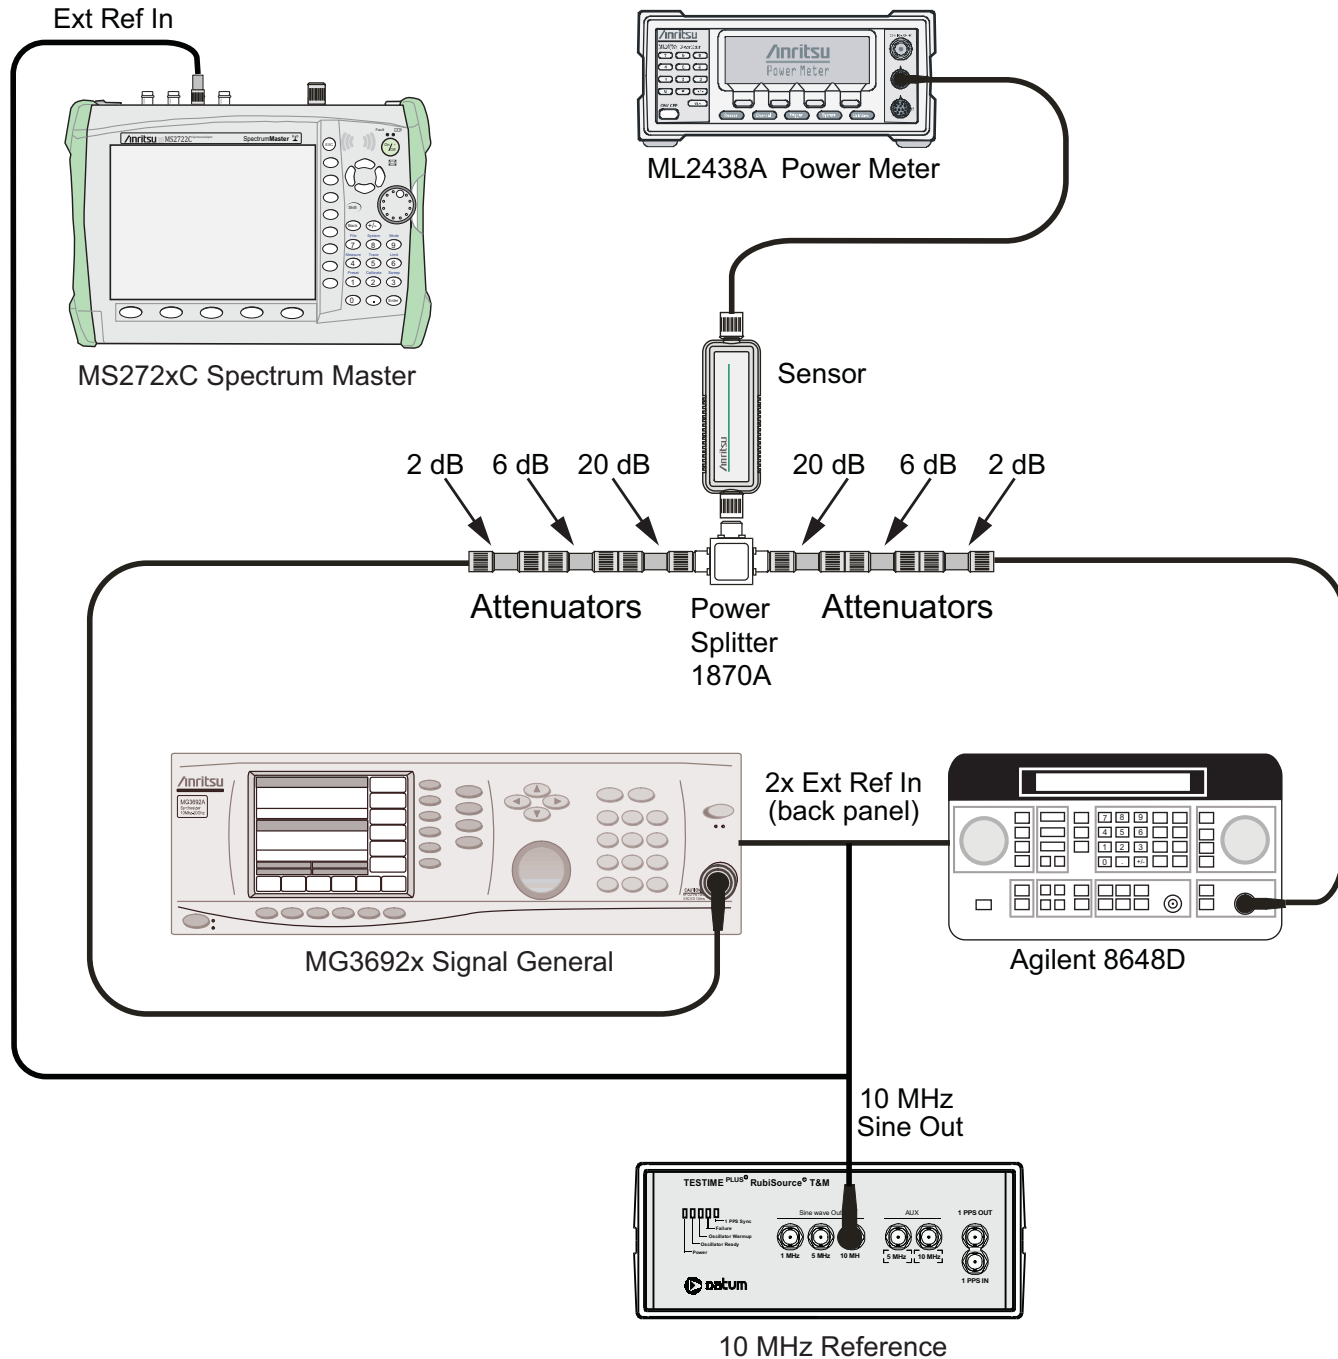
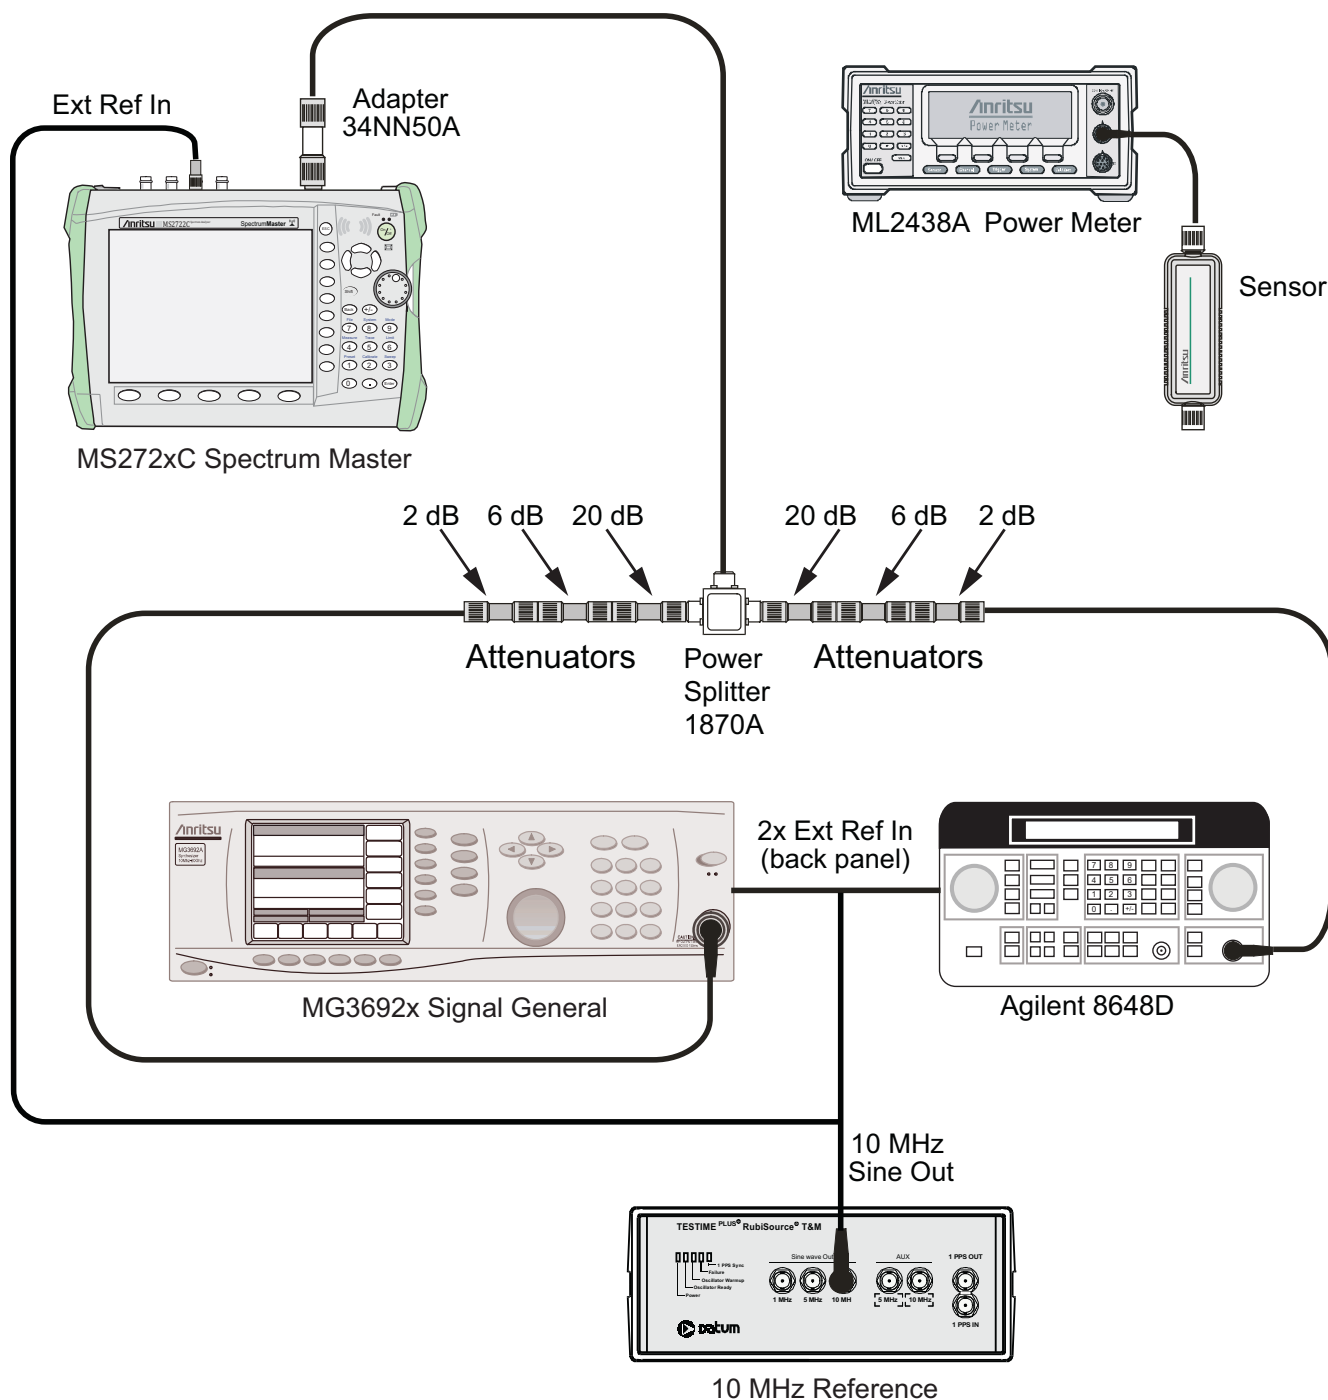

Figure 2-5. 2400 MHz TOI Verification Characterization, Component Characterization Setup
Figure 2-6. 2400 MHz TOI Verification, Test Setup
1. Connect the equipment as shown in Figure 2-5. The splitter will be used as an RF combiner (the normal RF outputs will become inputs, and the normal input will become the RF output).
8. Set the MS272xC to Spectrum Analyzer mode and then Preset the instrument. Press the **Shift** key, the **Sweep** (3) key, **Sweep Mode** submenu key and then the **Performance** submenu key.
10. Press the **Shift** key and the **Sweep** (3) key. Press **Detection**, and press RMS (a red dot appears on the label).
11. Disconnect the power sensor from the output of the splitter and connect the splitter output to the MS272xC Spectrum Analyzer RF In connector through the Anritsu Model 34NN50A or 71693-R adapter (Figure 2-6 on page 2-25).
13. Press the **Shift** key and then the **Trace** (5) key. Press **Trace A Operations**, and set # of Averages to 2.